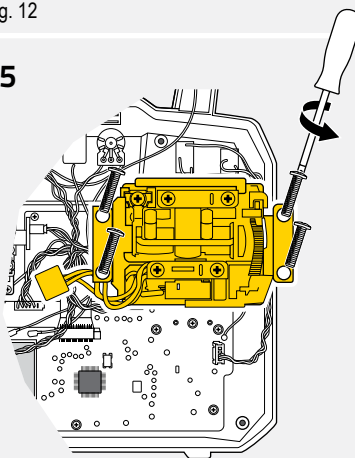

Fig. 15
6. Remove the 4 screws that hold the throttle stick in place (see [\[Fig. 15\]](#)).